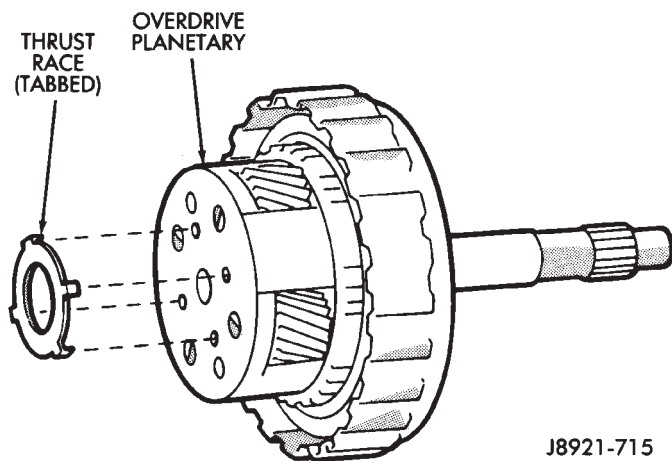

Fig. 48 Installing Planetary thrust Race
- (60) Coat tabbed thrust race with petroleum jelly and install it on planetary gear (Fig. 48). Race outer diameter is 41.8 mm (1.646 in.) and inside diameter is 27.1 mm (1.067 in.).